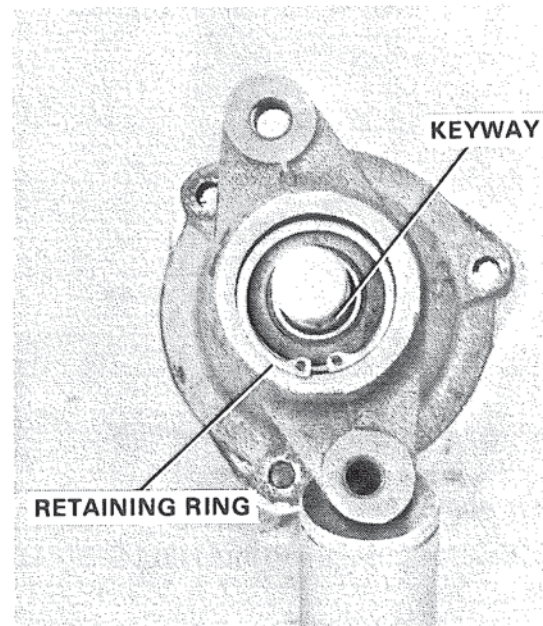

Figure 10. Securing Shaft Assembly Drive End.
- E. Install shaft assembly into body and secure with large internal retaining ring. Figure 10.